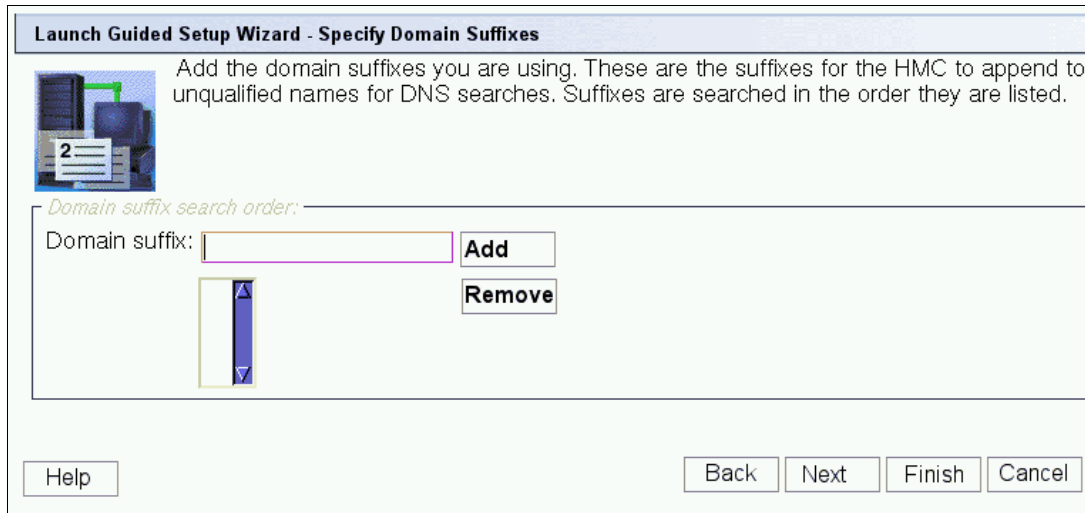

Figure 3-18 Launch Guided Setup Wizard - Configure Domain Suffix
22. Launch Guided Setup Wizard. The configure the domain suffix using the Specify Domain Suffixes dialog panel is shown in Figure 3-18.